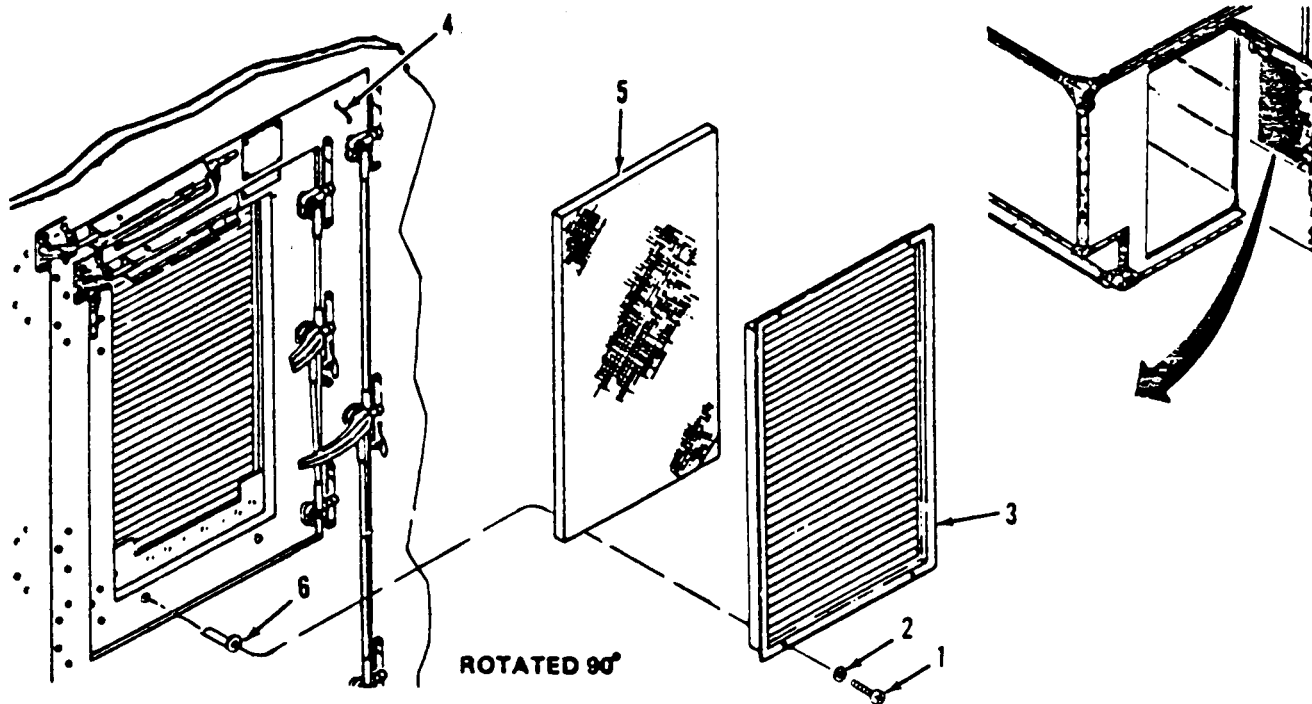

Figure 3-27. Directional Vane Assembly and Air Intake Filter Replacement.
- (1) Inspect for damaged directional vane assembly.
- (2) Inspect for loose or missing attaching hardware.
b. Replace. (Figure 3-27)
- (1) Remove and retain four phillips head screws (1) and lock washers (2) and take directional vane assembly (3) off inside of inner door assembly (4). Remove air intake falter (5).
- (2) Inspect condition of rivnuts (6) and replace if necessary (paragraph 3-9. b). Replacement rivnuts must have same inside diameter and thread size as rivnut removed. Dip new rivnuts in sealer prior to installation.
- (3) Position air intake falter (5) in recess on inside of inner door assembly (4).
- (4) Position directional vane assembly (3) on inner door assembly (4) over falter (5). Make sure vanes are aiming up toward interior of shelter, as shown in figure 3-27. Dip four phillips head screws (1) in sealer and install with four lock washers (2).